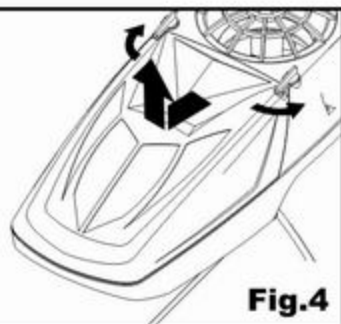

Fig.4
1. Turn red **LATCHES** on vehicle **BATTERY DOOR**, lift door up at rear and remove. (Figs.4)